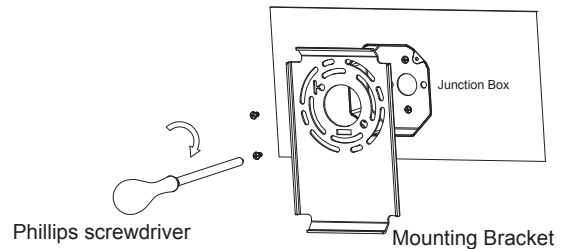

Fig.2
2. Use a Phillips screwdriver tool with a torque of 1 Nm to secure the mounting bracket with two screws(M4), which fit to the mounting bracket and junction box. (Fig.2)